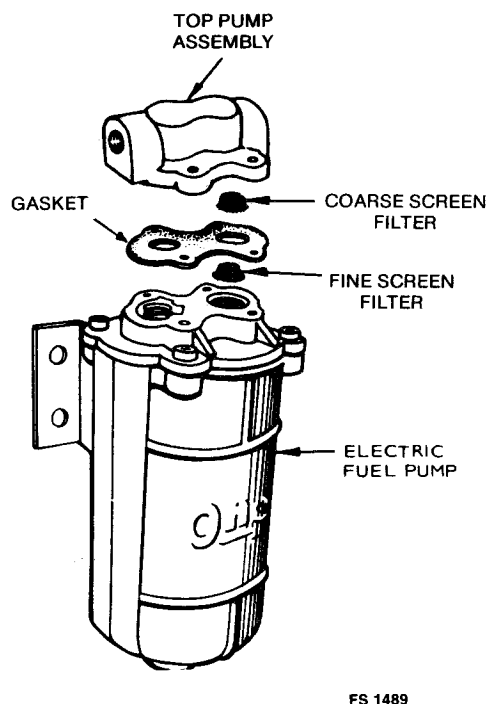

FIGURE 25. ONAN ELECTRIC PUMP FILTER LOCATION
**Onan Fuel Pump Filter:** The Onan electric fuel pump has two screen filters mounted in the top of the pump. To gain access, remove the four Phillips screws and lift off top pump assembly (Figure 25). Remove and clean both the coarse and fine filter screens and reinstall with a new gasket. Remount the top pump assembly, making sure the gasket is in place.